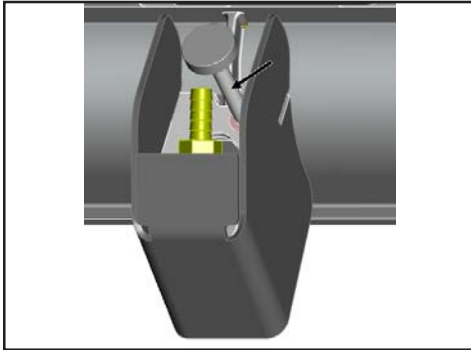
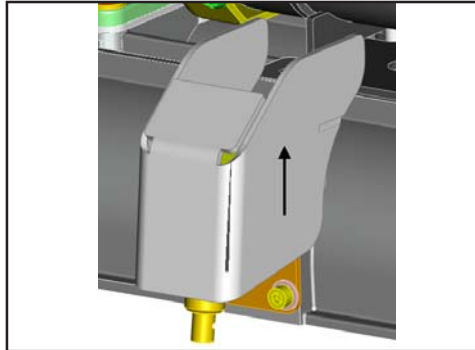

Figure 1
Figure 2
2. Loosen the lower wing nut (B) on the adjusting screw (C) and adjust the squeegee using the adjusting screw so that the ends of the squeegee blades still have contact with the floor. By turning the adjusting screw (C) counterclockwise, the clearance between squeegee blade and floor is **increased** in the center (Fig. 1). When turning the adjusting screw (C) clockwise, the clearance between squeegee blade and floor is **reduced** in the center (Fig. 2).
4. Tighten the lower wing nut (B) on the adjusting screw (C) against the metal bracket to lock in the pitch setting.
1. Remove knob located above sprayjet (Figure 1).
2. Pull sprayjet cover up and hold for easy access to spray tip (Figure 2).